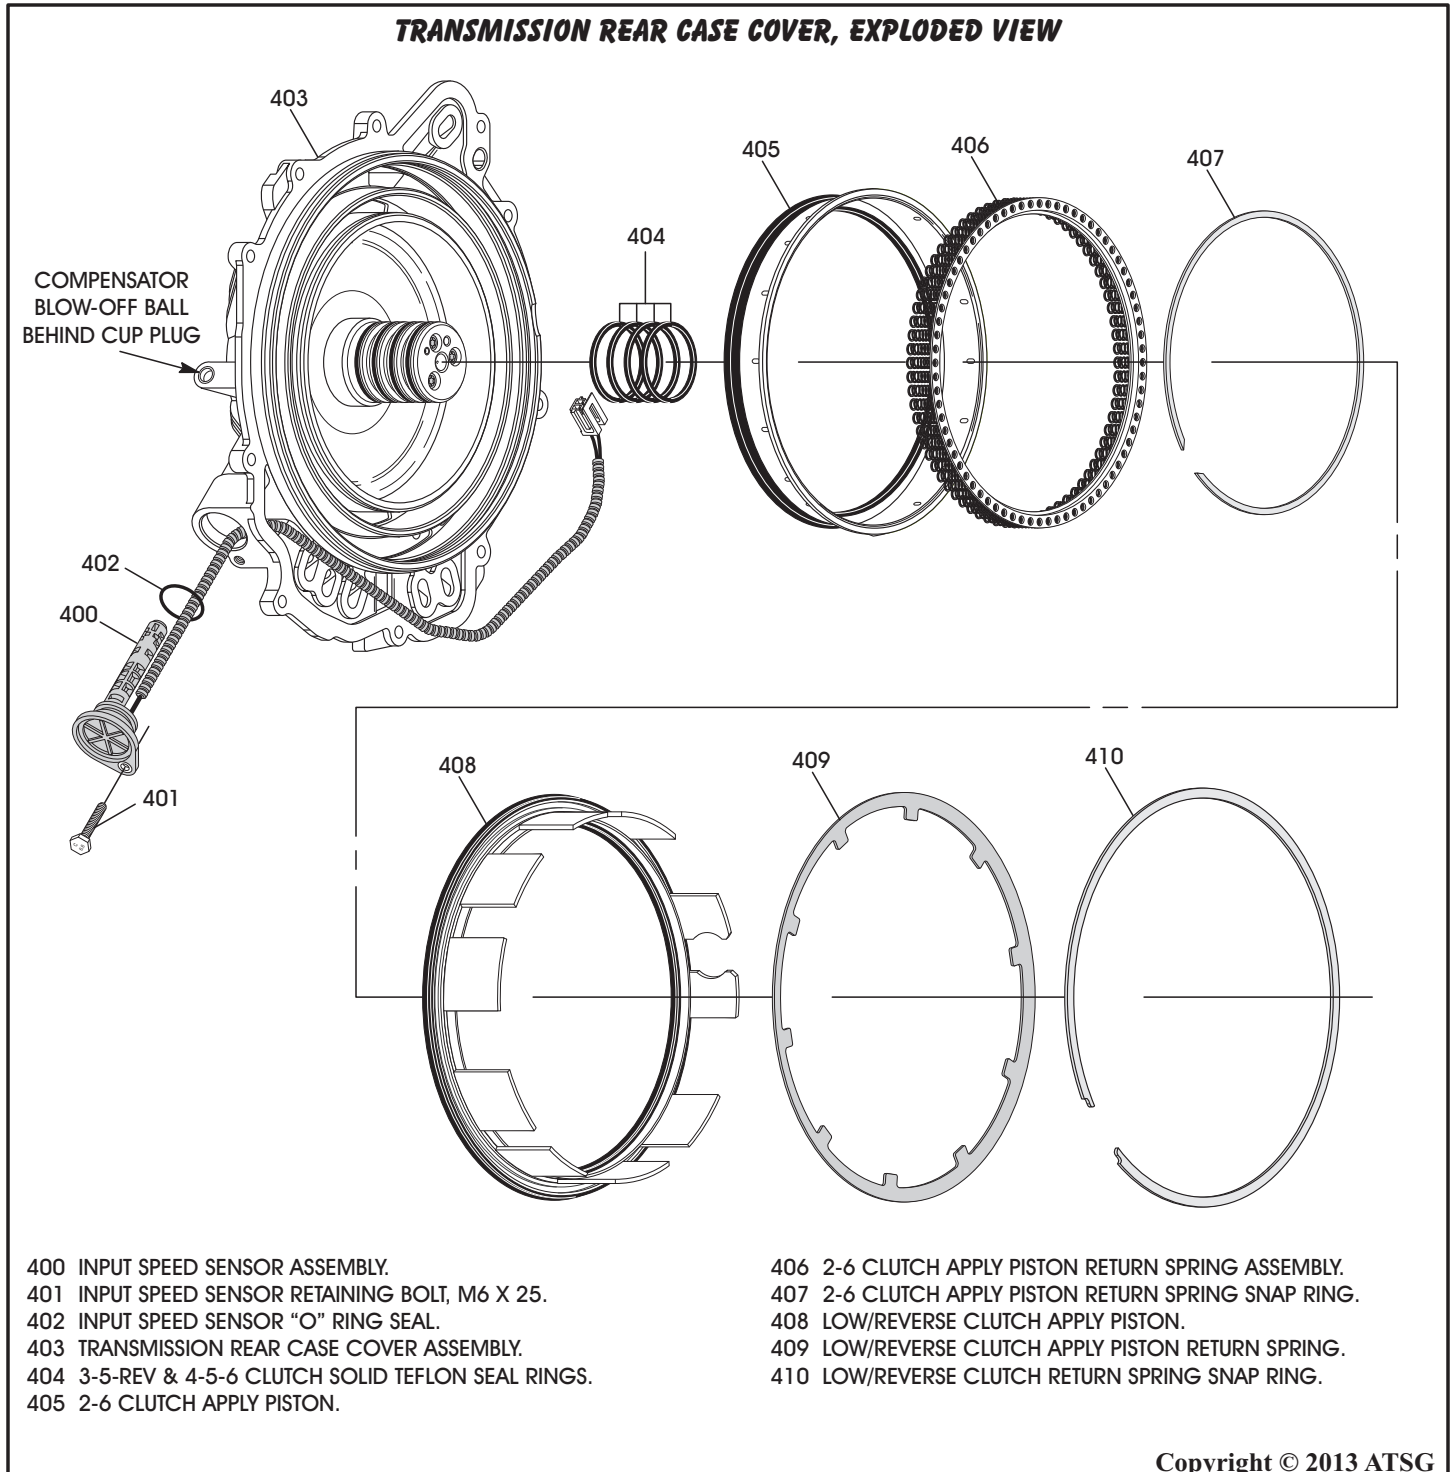

Figure 127
1. Disassemble the rear case cover assembly using Figure 127 as a guide.
**Note:** If the compensator blow-off ball needs to be removed, it is located behind the cup plug that is shown in Figure 127.